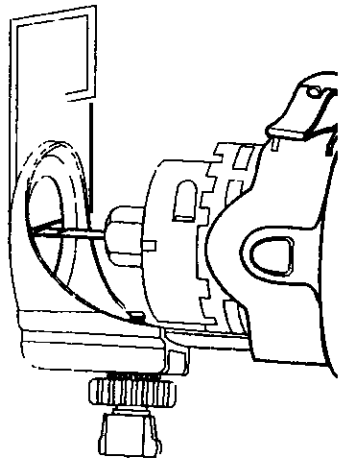

Fig. 8
- 5 Hold the tool firmly with both hands and turn it ON. Plunge the bit through the drywall at the mark indicating the center of the box. See Fig 8 for cutting pattern